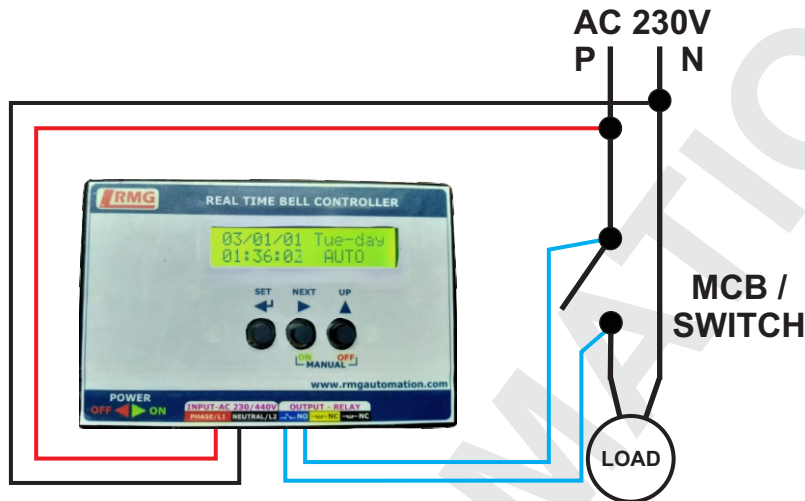

Figure1: POWER & LOAD CONNECTION
**Step 2:** Connect 230V AC supply to red and black wire of timer refer figure 1.
**Step 3:** Connect blue pair wire to the switch/MCB of the load in parallel as shown in figure 1.